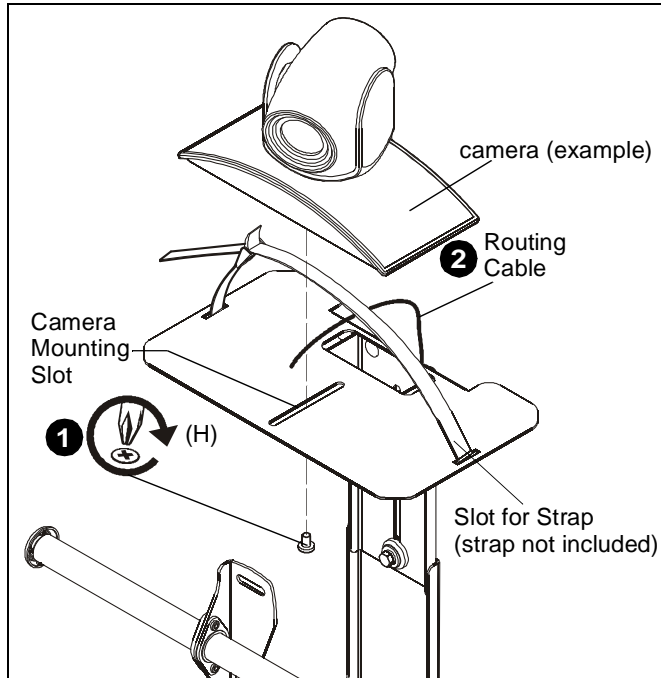

Figure 7
1. Install 1/4-20 x 3/8" Phillips pan machine screw (H) through mounting slot on shelf and into hole on bottom of camera. (See Figure 7)
2. Route cable from camera towards back of shelf and down behind the FVS100/FVS250. (See Figure 7)
**NOTE:** Slots are provided in the shelf to allow use of a strap (not included) to hold camera on shelf. (See Figure 7)